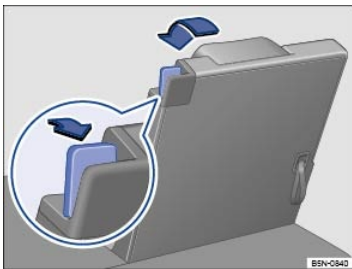

Fig. 80 In the third row: Lever to release the third row seat backrest.
- From the trunk, pull the release lever ⇒ *Fig. 80* toward you (arrow in lever magnified view) to unlock the third row seat backrest.